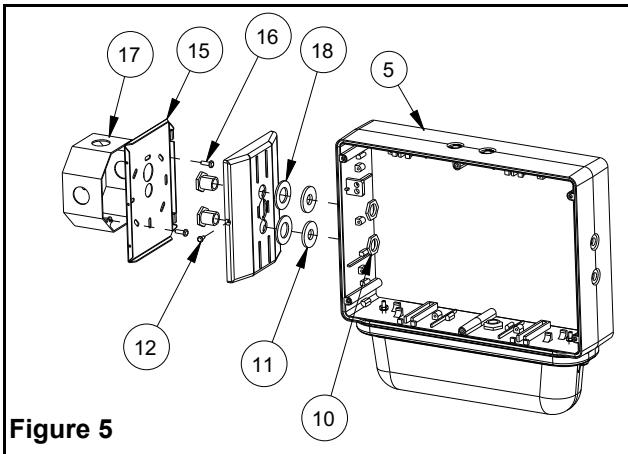

Figure 5
- h. Determine which holes in the exit frame will be used for mounting (see fig. 1, 2 & 5). Support frame with two blocks of wood, maximum one inch apart. Strike knockouts with a hammer and screwdriver. Clear holes of burrs to allow proper assembly of nipple/wire assembly. Note: end mount installation is weatherproof but not certified for Nema 4X (see fig. 5).
- i. Secure canopy to the frame by threading the provided nipple/wire assembly through the canopy and frame. Make sure the gasket washers are between the canopy and frame, and that the locknuts(11) are inside the exit sign (see fig. 5).